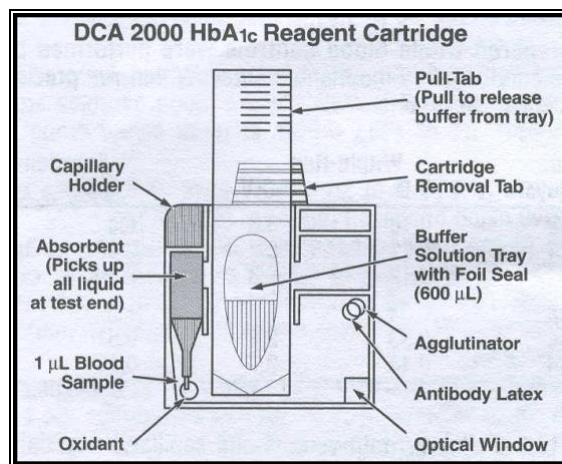

Figure 1
- 1.3. This assay is based on a latex immunoagglutination inhibition methodology. Both the concentration of Hemoglobin A1c (HbA1c) specifically and the concentration of total hemoglobin are measured, and the ratio reported as a percent Hemoglobin A1c. All of the reagents for performing both reactions are contained in the DCA Systems Hemoglobin A1C Reagent Cartridge (Figure 1).